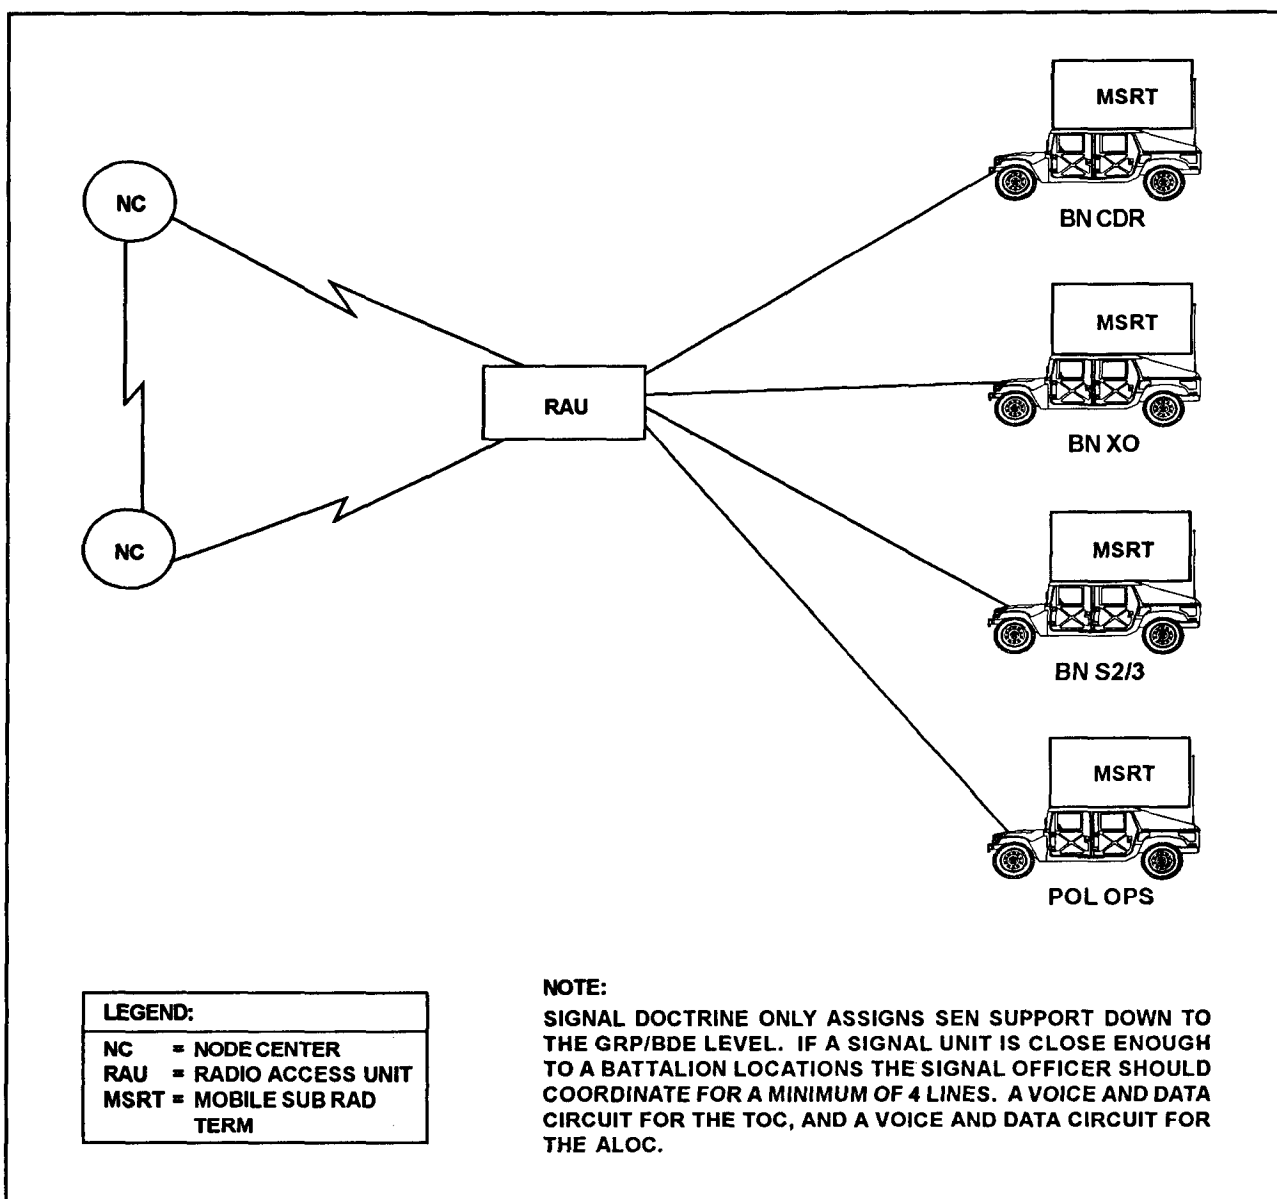

Figure 4-4. Petroleum battalion mobile subscriber interface
- Mobile subscriber interface equipment. The supporting signal unit provides connectivity to the battalion that allows it to interface with the theater digital or corps mobile subscriber network. Users access MSE network via fixed subscriber terminals or mobile subscriber terminals. Figure 4-4, page 4-12, depicts these access points. The fixed subscriber terminals are hard wired to a SEN through a junction box, J-1077. The three fixed instruments are the DNV, TA-1035; the DSV, KY-68; and the communication terminal, AN/UGC-144. The MSRT is the AN/VRC-97. The MSRT, which consists of a very high frequency radio and a digital secure voice terminal (KY-68), in a vehicle-mounted assembly. It interfaces with the MSE system through a RAU. As long as the radio unit has line-of-sight contact with the RAU, it has connection in the MSE area system. The operational planning range is 15 kilometers from any RAU.
- Message center. Message center operations orient on the AN/UGC-144 computer terminal that enables access into the DMS, DDN, and MSE network. Both the S4 and POL Ops sections are authorized these terminals as shown in figure 4-4. These terminals are user-owned and -operated message terminals. Through menu-driven screens and passwords, it allows composition, transmission, and formal record traffic receipt. Each terminal has a KY-68 DSV that provides autodial encryption capability. Section personnel, with the assistance of the communication section, process incoming and outgoing messages according to assigned priorities. They will observe the following precedence, time frames and procedures per FM 24-17 and AR 25-11.
- Radio communications net. There are nine SINCGARS radios dispersed throughout the company, see figure 4-4. Section personnel establish the radio communications net for these radios. When performing their duties, they should —